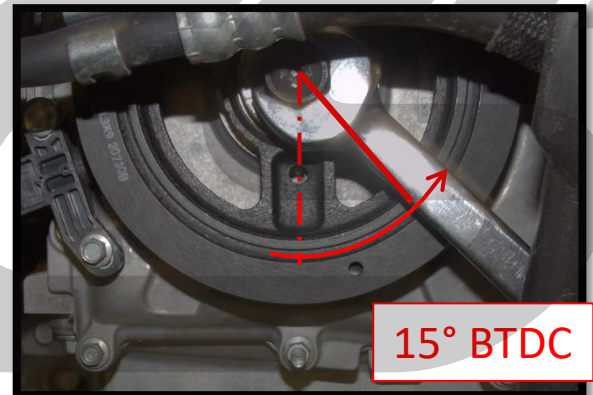

Figure 3r
- r) Turn the crankshaft back to approximately 15° BTDC using a 21mm wrench on the crankshaft pulley bolt (Figure 3r).